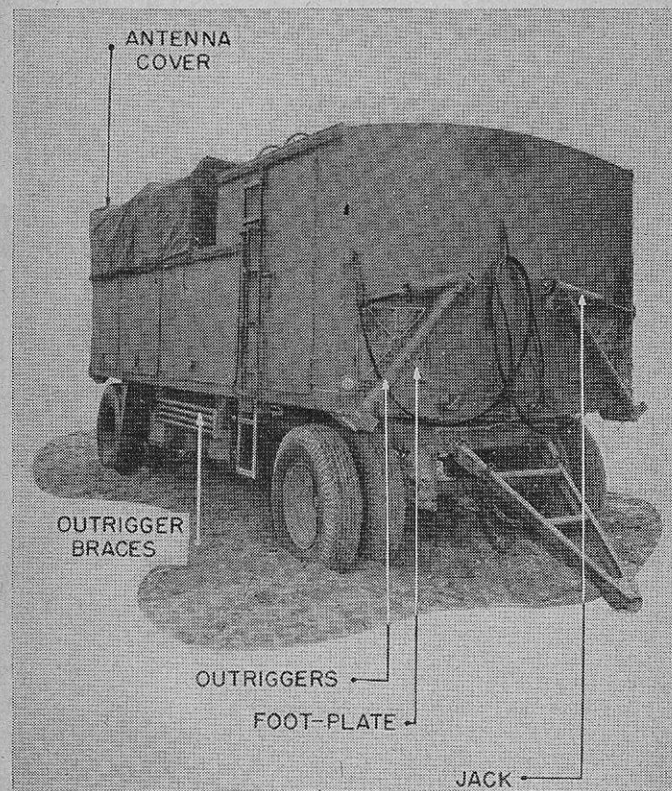

FIGURE 4.—Trailer in traveling position.
■ 7. TRAILER.—a. The trailer houses the electrical equipment of the SCR-545-A with the exception of the power supply equipment described in paragraph 6. Figure 4 is a view of the trailer ready for the road. The antenna is folded down and covered by a tarpaulin and the outriggers and jacks are disassembled and stowed for march order.
b. Complete with all equipment the trailer weighs $13\frac{1}{2}$ tons. Its over-all length, including the drawbar, is 27 feet. In figuring cubic space for export the length may be reduced to 22 feet, $8\frac{1}{2}$ inches, by raising the drawbar to a vertical position against the front of the trailer cab. The width of the unit is 8 feet and its over-all height (in traveling position, (fig. 4)) is 10 feet, 8 inches.